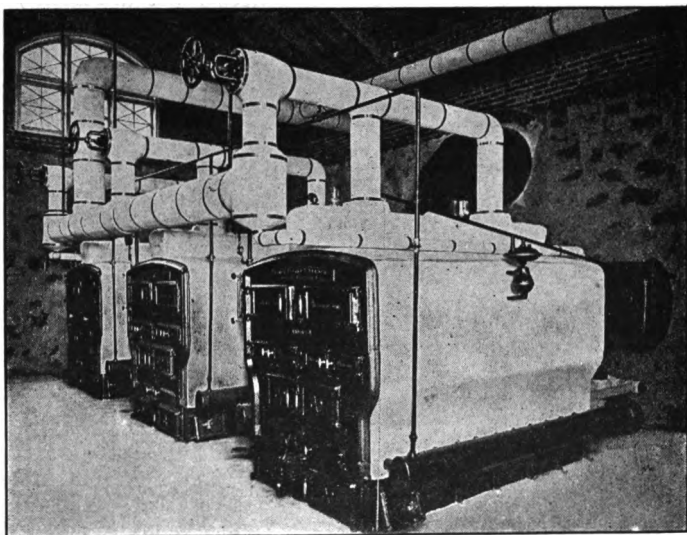

FIG. 46
20. Why are the pipes in the cellar sometimes covered with asbestos, felt, or magnesia (Fig. 46)?